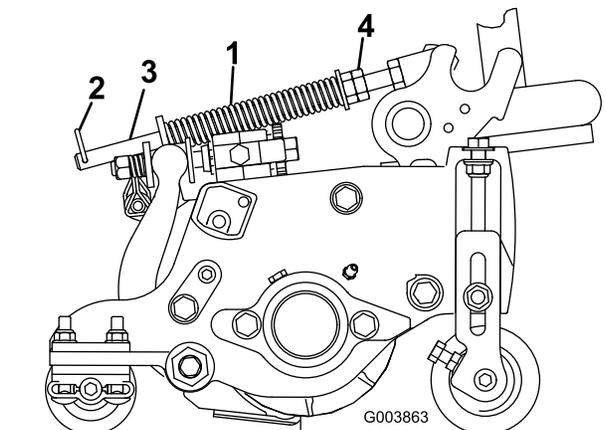

Figure 50
The turf-compensation spring (Figure 50) transfers the weight from the front roller to the rear roller. This helps to reduce a wave pattern in the turf, also known as marcelling or bobbing.
1. Make sure that the hairpin is installed in the rear hole in the spring rod (Figure 50).
2. Tighten the hex nuts on the front end of the spring rod until the compressed length of the spring is 15.9 cm (6.25 inches); refer to Figure 50.